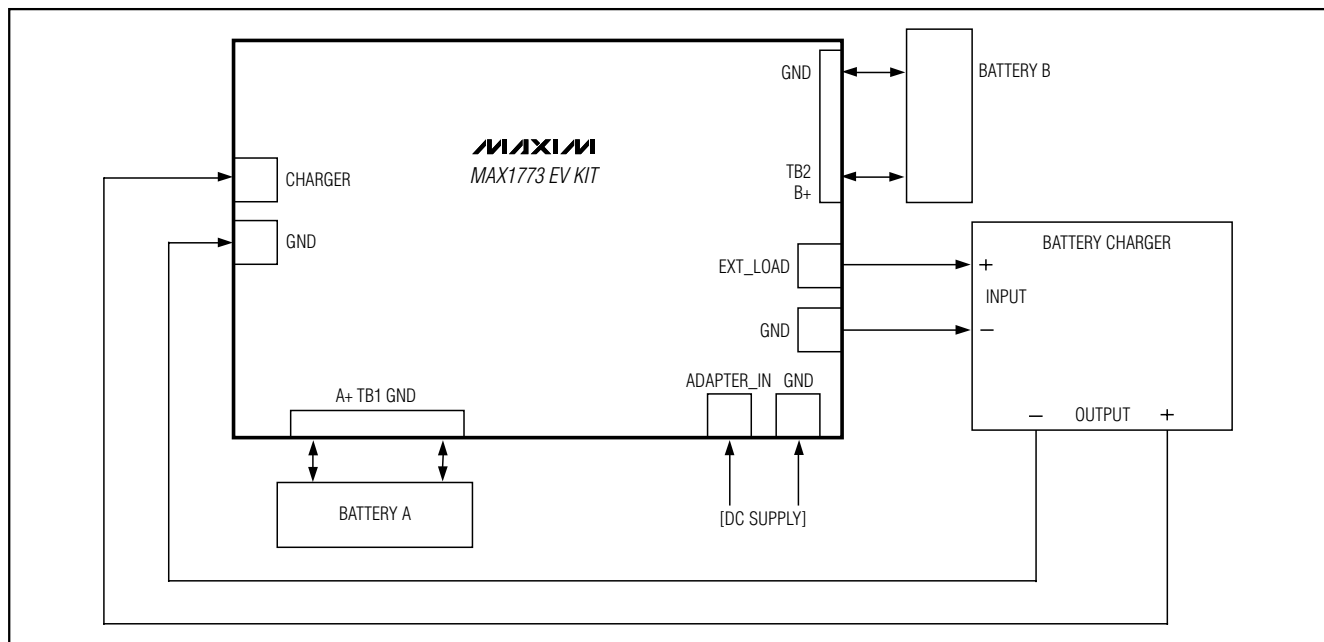

Figure 1. Connection Diagram
**Note:** See the connection diagram (Figure 1).